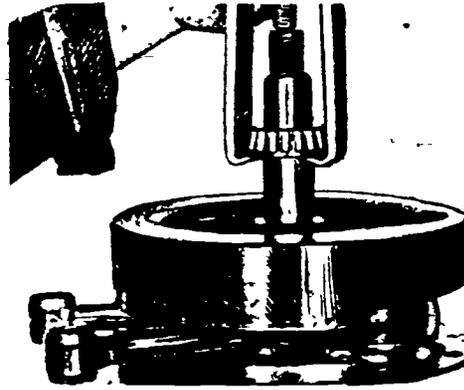

FIGURE 1
2. Remove all bearings from the shaft (Figure 1)